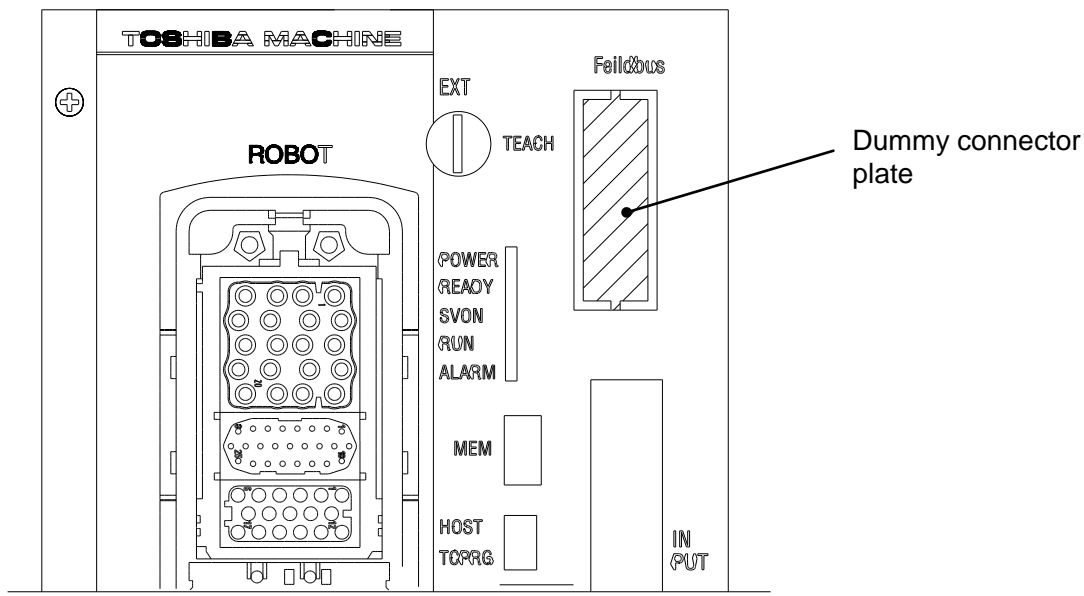

Fig. 6 TSL3000/TSL3100 Robot Controller Front Panel Top
- (3) Remove the dummy connector plate (shown as the cross-hatched section in Fig. 6) on the rear panel of the robot controller.